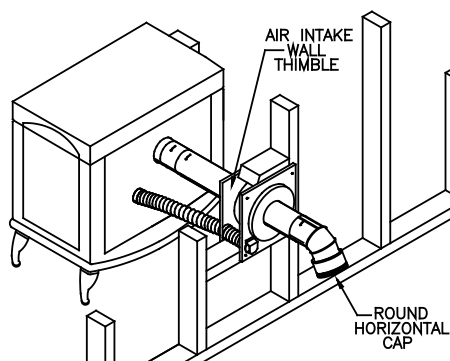

Figure 13
Secure flex to combustion air inlet of the stove with clamp provided. Only connect metal flex to the appliance; do not substitute or install plastic flex. The cover plate comes installed on the lower left corner of the thimble with intake guard pointing downward to deflect rain. If it is desired to rotate thimble and air inlet to another corner, remove the (2) screws on the inlet guard and re-attach over air inlet at new location. Secure black interior half of the Wall Thimble to the interior wall, and the unpainted exterior half are to be secured to the exterior wall on both styles of thimbles (**Figure 13**). The Wall Thimbles adjust to fit walls from 4"-8" thick. For installation in thicker walls an extension tube may be field fabricated.
5. If the flue exit is on back of the stove, and a horizontal through-the-wall installation is desired (**Figure 13**):